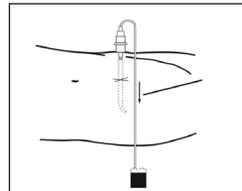

Figure 6
- Note: If no fluid return occurs, reinsert guidewire and again check for fluid return after wire guide removal. If fluid return still does not occur, flush catheter with saline solution. If fluid return still does not occur, exchange old catheter with new utilizing wire guide (refer to Figure 6).*